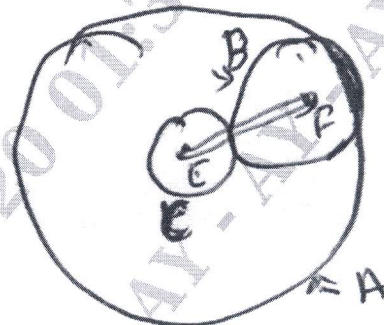

Fig.Q4(a)
- 4 a. An epicyclic gear consists of three gears A, B and C as shown in Fig.Q4(a). The gear has 72 internal teeth and gear C has 32 external teeth. The gear B meshes with both A and C and is carried on an arm EF which rotates about the centre of A at 18 rpm. If the gear A is fixed, determine the speed of gear B and C.